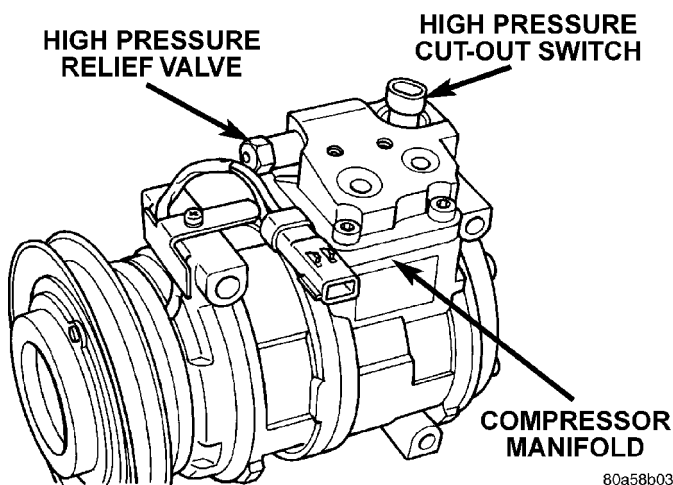

Fig. 35 High Pressure Relief Valve Location
- (1) Disconnect wiring connector at the switch (Fig. 35).
- (2) Remove internal snap ring.
- (3) Pull switch out of manifold.
- (1) Using a R-134a refrigerant recovery machine, remove the refrigerant from A/C system.
- (2) Rotate the high pressure relief valve counter-clockwise and separate relief valve from the vehicle (Fig. 35).